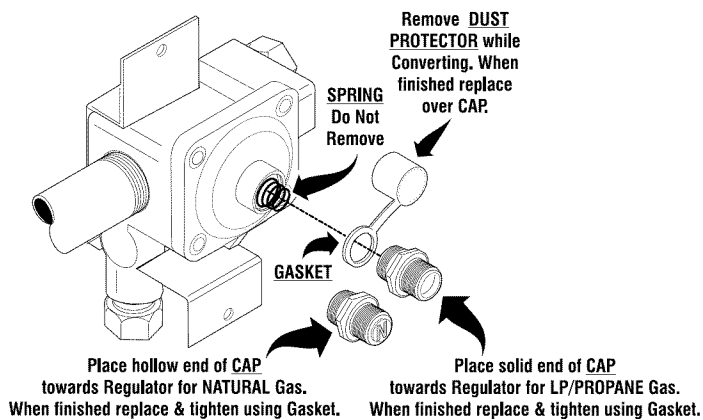

Fig. 3
- Follow the remaining instructions provided in Fig. 3.